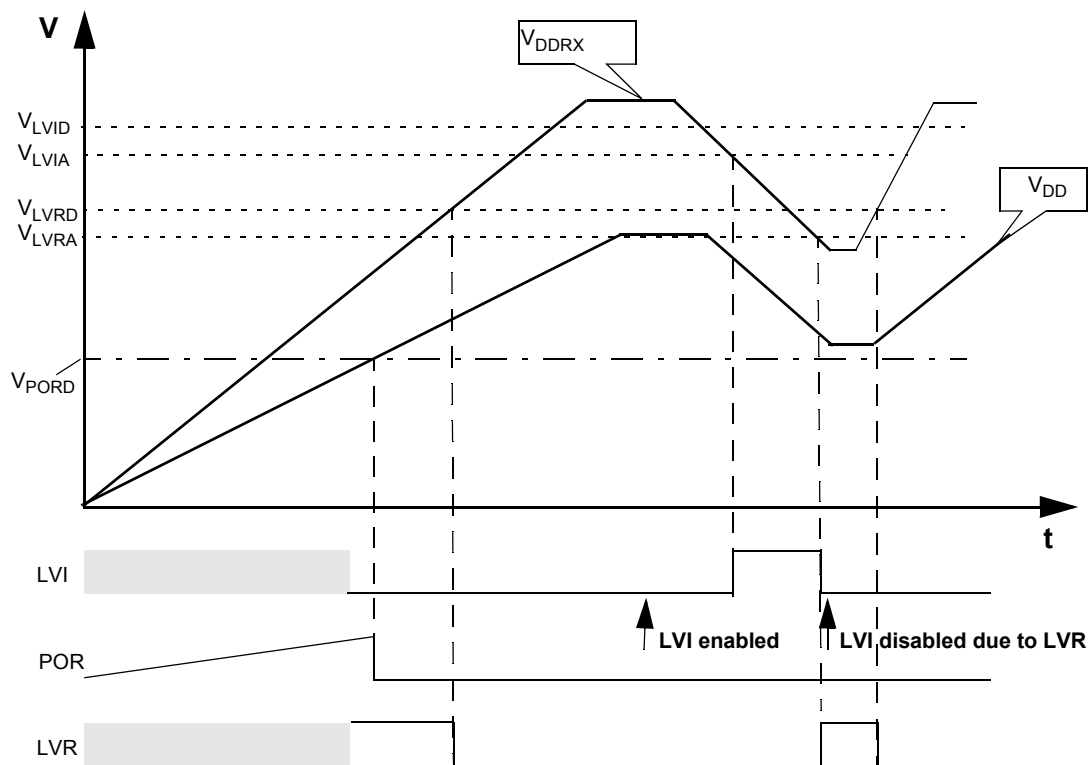

Figure 7. Chip Power-up and Voltage Drops OSCLCPcr Electrical Specifications
53. Monitors VDDRX, active only in Full Performance mode. MCU is monitored by the POR in RPM (see Figure 7)
55. Monitors VDDRX, active only in Full Performance mode.  $V_{LVRA}$  and  $V_{POR}$  must overlap (see Figure 7)